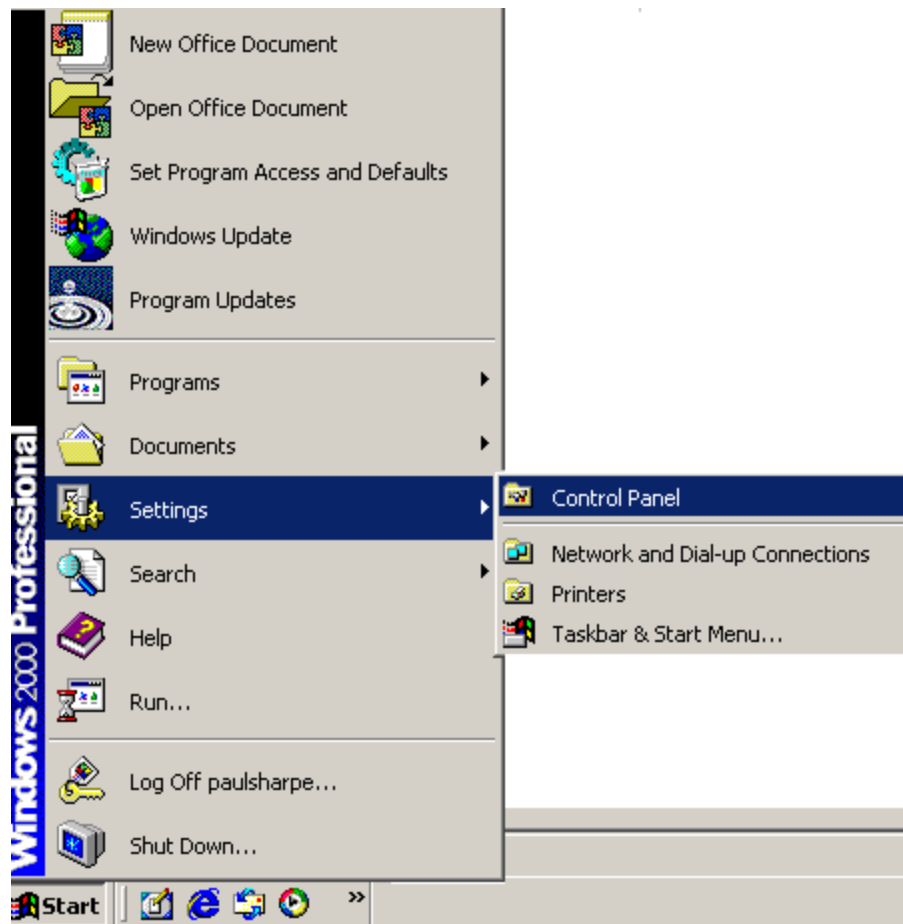

Figure 7-16: Access Windows Control Panel
Step 1: Open **Windows Control Panel** (**Figure 7-16**).